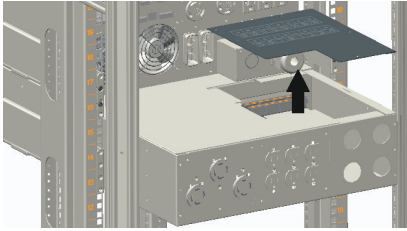

Figure 5. Remove the Access Panel Cover
5. Remove the access panel cover (see Figure 5).